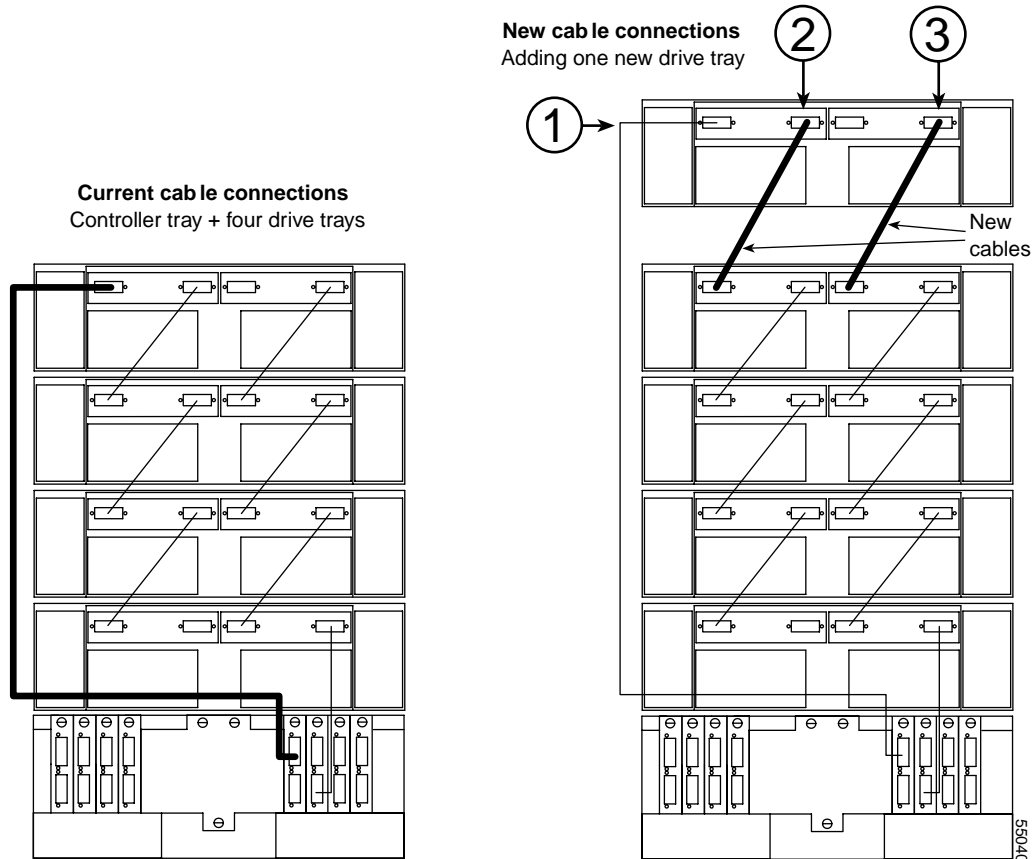

Figure 7-9 Adding a New Drive Enclosure to an Existing Loop
2. Re-cable the drive enclosures follows (see Figure 7-9):
- a. Disconnect the cable (marked "1" in Figure 7-9) from its current connection and connect it to the In connector on the new drive enclosure. If you are adding more than one drive enclosure, connect this cable to the In connector on the last drive enclosure in the new group.
- b. Connect a cable (marked "2" in Figure 7-9) to the In connector that you disconnected in the previous step and the Out connector on the new drive enclosure.
- c. Connect a second cable (marked "3" in Figure 7-9) to the empty In connector on the current drive enclosure and the Out connector on the new drive enclosure.
Important: Depending on how long it takes you to complete steps a and b in Figure 7-9, the storage management software (TPSSM) may report a loss of redundancy error on the drive enclosures in the loop. This error will not interfere with data flow, and will disappear after you complete step b.